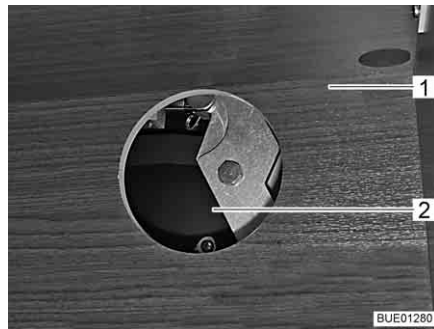

Fig. 119 Access to drive
- Depending on the model, open the flap of the wall-mounted cupboard (Fig. 119,1) and remove the cover from the access port (Fig. 119,2).